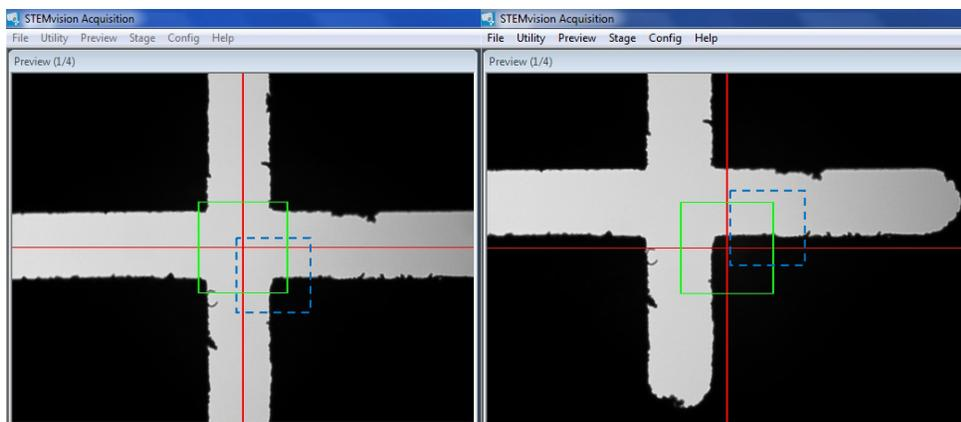

Figure 22. STEMvision™ Stage Position: Correct (left) and Incorrect (right) Positioning
4. Confirm that the intersection of the red grid lines falls within the center area of the cross (i.e. open space outlined in blue dashed square), as shown in Figure 22 (left image).
5. Right-click on well A1 in the Well Navigator dialog box to move the stage to the center of this well. A cross-shaped slot should again be visible in the preview image. Confirm again that the red grid lines fall within the center area of the cross, as shown in Figure 22 (left image).
6. If the red grid lines fall outside of the boundaries of the cross shape for either wells A1 or B3, then the stage is not calibrated correctly (Figure 22, right image).